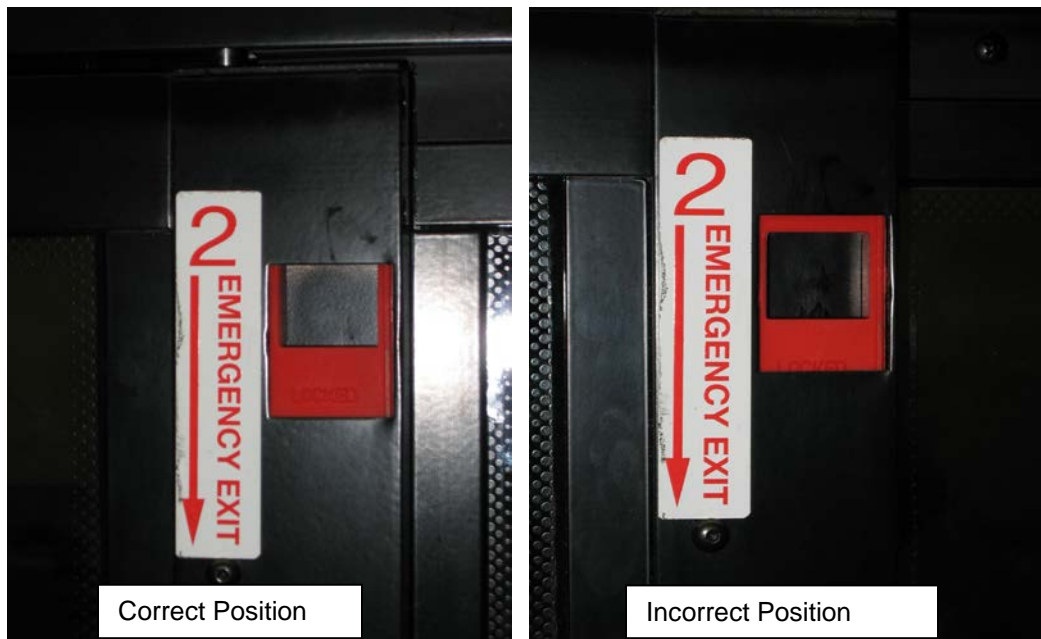

FIGURE 45: RELEASE LATCH PROPER POSITION
6. Confirm that both latches are in the closed (latched) position. The upper edge of the latch opening must be aligned with upper edge of the sash opening (Figure 45)